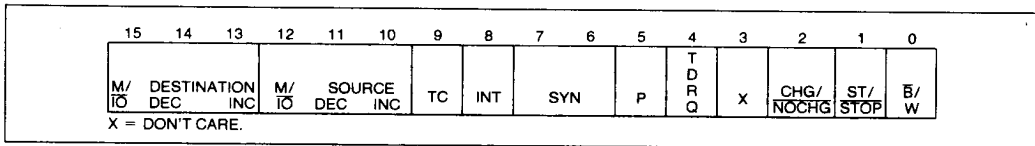

Figure 17. DMA Control Register
16-bit Transfer Count Register, and a 16-bit Control Word. The format of the DMA Control Blocks is shown in Table 13. The Transfer Count Register (TC) specifies the number of DMA transfers to be performed. Up to 64 Kbyte or word transfers can be performed with automatic termination. The Control Word defines the channel's operation (see Figure 17). All registers may be modified or altered during any DMA activity. Any changes made to these registers will be reflected immediately in DMA operation.